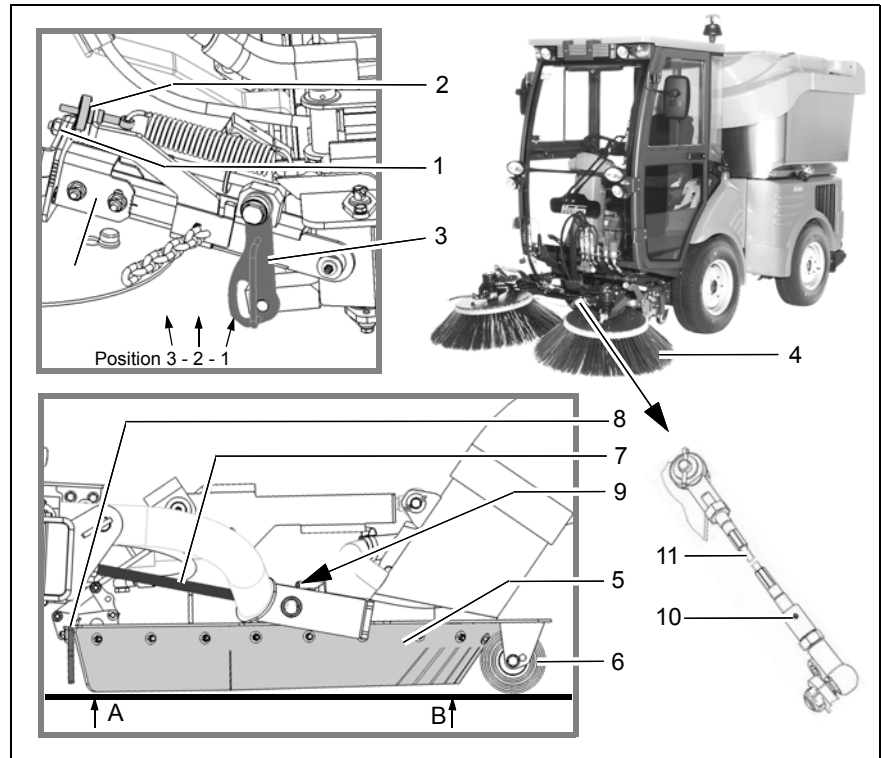

Fig.50
Check the solution nozzle on the vacuum nozzle (Fig. 50/9) daily, if necessary clean it.
The contact surface of the circular brushes (Fig. 50/4) on the floor (sweeping pattern) as well as the lifting arms have been adjusted by the manufacturer using the adjustment screws (Fig. 50/1). Check the sweeping pattern after every 250 hours of operation and adjust if necessary.
The circular brushes cannot be pivoted in. Check the heavy duty spring pin (Fig. 50/10); change it, if necessary.
The surface pressure from the circular brushes is adjusted using the adjustment screws (Fig. 50/2). With increasing wear, the sweeping pattern has to
The gap between the sealing strip and the floor in the front area (A) has to be approx. 3+2 mm. In the rear area (B) the gap must be 8+2 mm. The adjustment is made by means of threaded rods (Fig. 50/7). When the sealing strip wears, set the rollers (Fig. 50/6) in a hole higher up. Defective seals, including those on the larger material flap (Fig. 50/8), are to be replaced immediately because they reduce the suction.
During travel operation the sweeping unit has to be secured with the transportation locking device (Fig. 50/3)! Positions for the locking device:
The circular brushes cannot be pivoted in. Check the heavy duty spring pin (Fig. 50/10) and the bowden cable (Fig. 50/11); change it, if necessary.